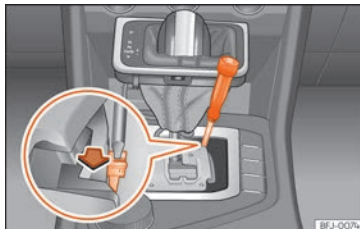

Fig. 55 Selector lever: manual release from position P.
- Using a screwdriver, press and hold the yellow unlocking tab sideways  **Fig. 55**.